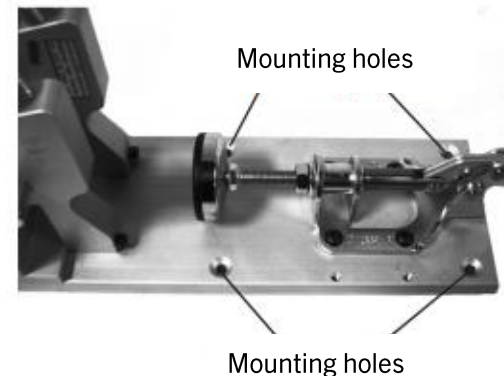

Fig.1
1. Secure the pocket hole jig to a wooden workbench by inserting the four included mounting screws (Fig.1), through the four recessed mounting holes in the base.